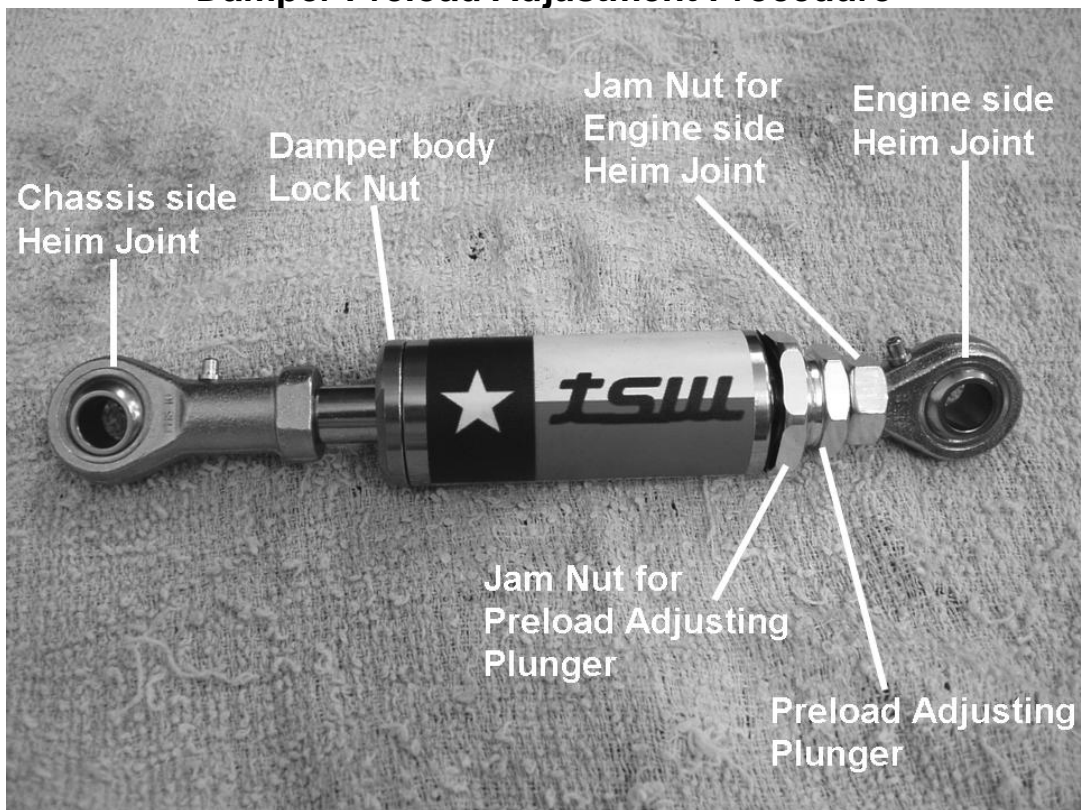

Figure 1
2. Remove the damper end cap (damper body lock nut in Figure 1) on the fixed mount end using a 15/16" or 24mm open end wrench. It is best to hold the damper vertically with the cap up, slide the wrench onto the flats, hold the damper cylinder tightly with one hand then turn the wrench counter clockwise.
2. If the elements are worn or cracked you must replace them. First grab the element shown in figure 1 on the left side of the assembly and pull it off the shaft.